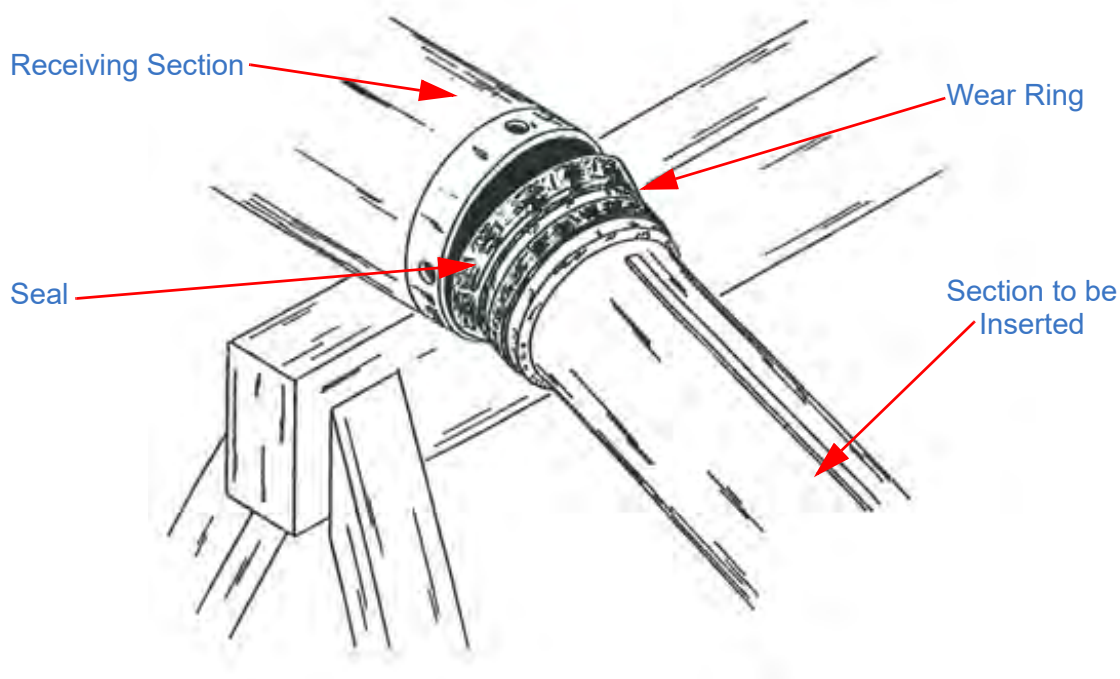

Figure 8-2 Seal Replacement
14. Using a second person or a brace to support the top end, hold the next tube so the top end of the tube is at a lower elevation than the seal end. Rest the lip of the seal on the inside of the receiving tube (Figure 8-2). Use care to follow all applicable lifting precautions whenever lifting the mast or components of the mast.